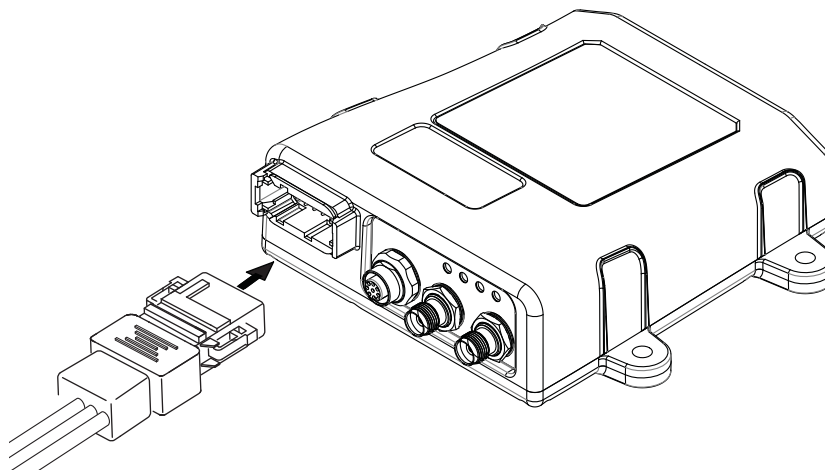

Figure 5: Connecting the Serial Cable Harness to the Receiver
2. Connect the supplied serial cable harness to the power/communication port (Figure 5).